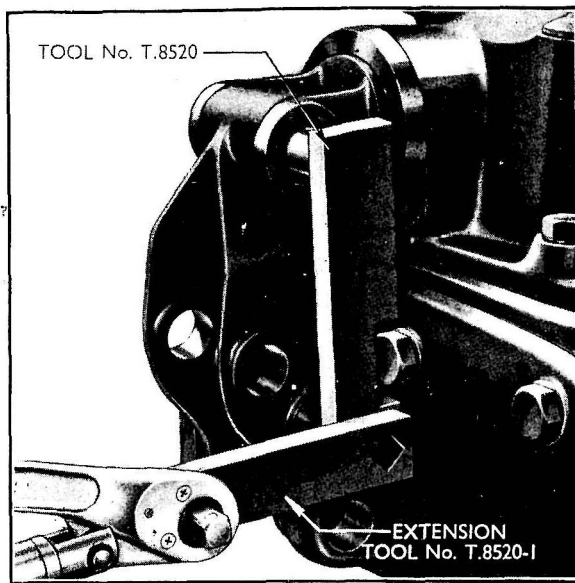

Fig. 61
T.8520-1, has been produced for use with the existing Main Control Spring Pre-load Tool No. T.8520, and a suitable torque wrench. This extension must be assembled at right-angles to the arm of the existing tool, connection being made to the square hole in the arm (see Fig. 61). The torque wrench is then applied to the outer end of the extension and an upward force of 80 lbs. ft. (11.06 kg.m.) applied. The leverage provided by the tool and extension multiplies this force to the required 250 lbs. (113.5 kg.) direct thrust on the spring.